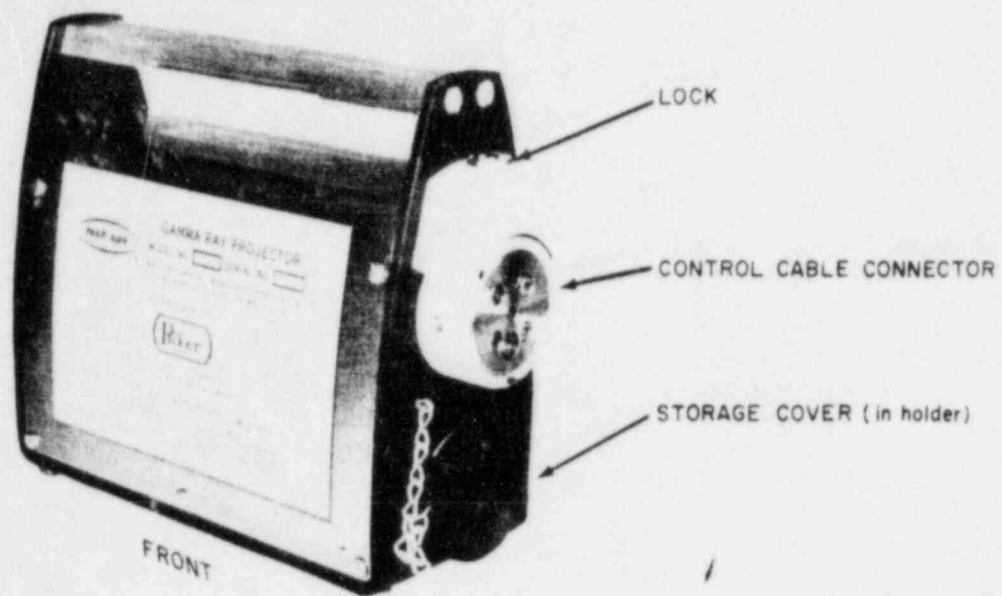

Figure 1. Source Shield, Front and Right Side
1.2. Source Shield Assembly (See Figures 1 and 2.)